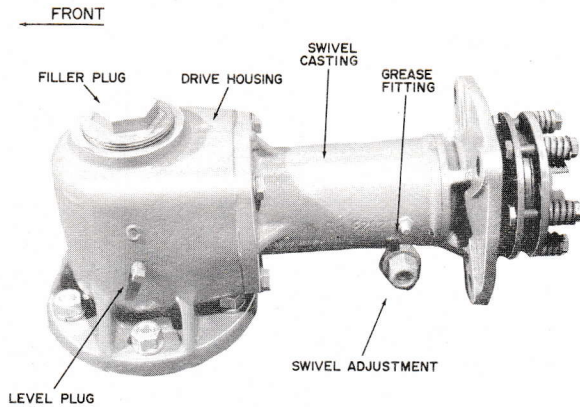

fig 6
3. Remove filler plug and level plug, fig 6. Fill the gear drive housing to the oil level plug with SAE 90 gear lubricant. Replace the plugs. Check the level periodically especially if signs of leakage are present.
4. Grease the swivel casting through the grease fitting on the casting with general purpose grease. Add grease until it comes out under the swivel adjustment fig 6. Regrease every 8 HOURS of operation.
2. **CASTERS:** The caster wheels should be adjusted (if necessary) after the mower is attached to a tractor. Raise or lower the casters, by use of the spacers, to make the mower level with the ground, fig 6, Item 46.